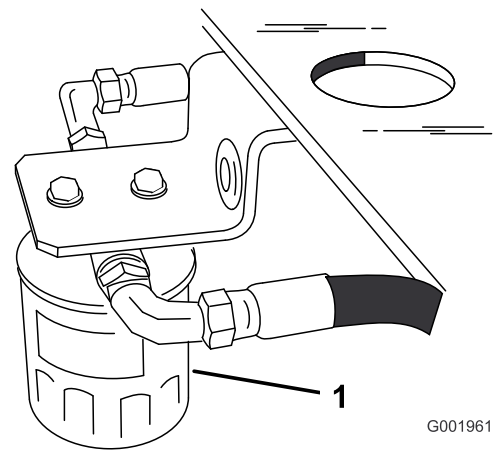

Figure 47
- Remove the old filter and wipe the filter adapter gasket surface clean (Figure 47).
- Locate the filter under the fuel tank and place a drain pan under the filter (Figure 47).